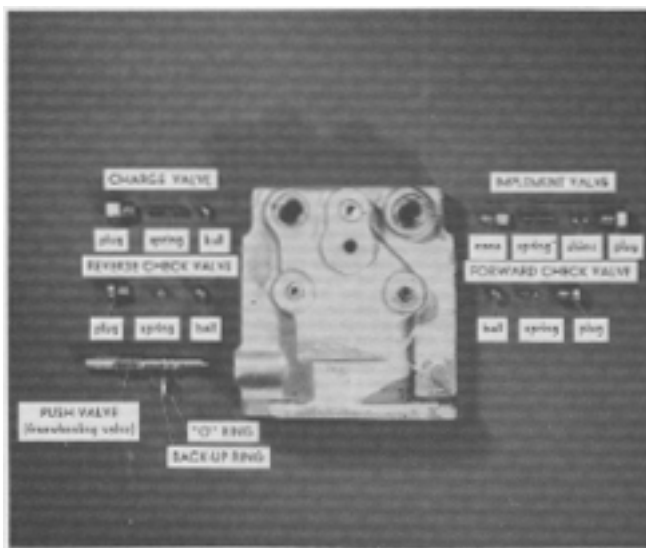

FIG. 52. Pump End Cap Valves
9. Remove the $\frac{5}{8}$ " hex plug from the top right corner of the pump end cap. (Viewed from the motor side of the pump end cap, see Fig. 52). If the unit is equipped for hydraulic lift operation, there will be shims located in the spring cavity of the plug. Do not lose these shims as they determine the amount of implement pressure. Remove the spring and cone valve. Do not mix up this implement valve spring with the charge valve spring removed from the top left corner.